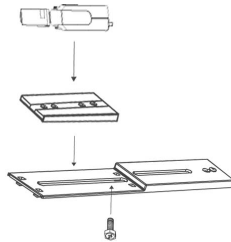

Fig. 5.7 Attaching the Camera and Spacer to the Tray
The UHI-SBG-0 includes two (2) spacers which may be required to keep the camera level (see *Figure 5.7* on page 8). If a spacer is not used, the camera may dip down creating a port hole effect.
3. Determine if one of the supplied spacers are required and place on top of the lower portion of the tray as seen in *Figure 5.7* on page 8.